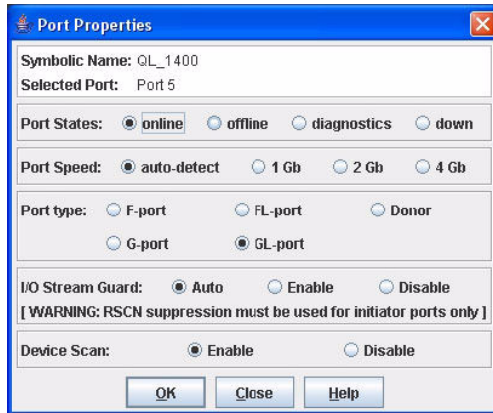

Figure 7-41 Port Properties settings window
12. Verify the following are true for port 5 (Figure 7-41 on page 203):